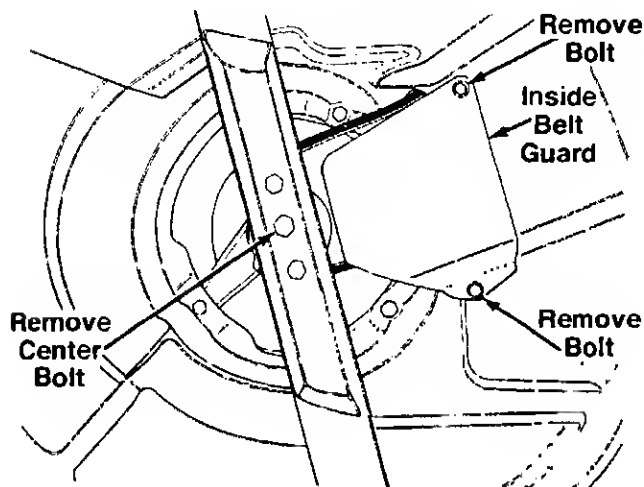

FIGURE 22.
5. Remove the center bolt which secures the blade to the crankshaft. See figure 22. Roll the belt off the pulley. Remove the blade (and blade adapter with pulley).
6. Remove the inside belt guard by removing two self-tapping screws. A 3/8" wrench is required. See figure 22.